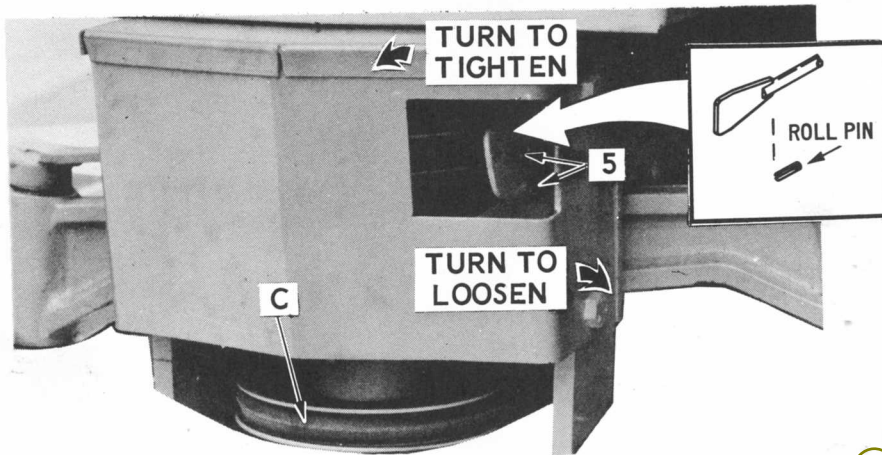

Figure 34
5. Place the attachment drive lever in the "ON" position. Turn the belt adjusting lever (5) counterclockwise until the inside edge is in line with the outside edge of the roll pin. See inset drawing on Figure 34.